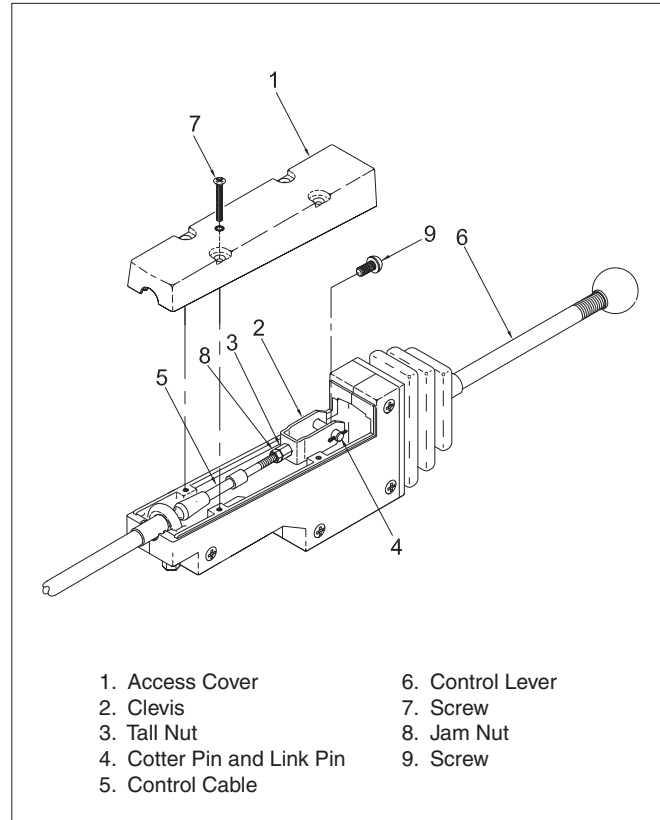

Figure 27 - Control Cable Adjustments
B. See Figure 27. Check that the positions of the **FREESPOOL** lever are the same as the position indicators on the decal. Remove the access cover on the housing. Loosen the nut that keeps the tall nut from turning. Remove the cotter pin and link pin from the clevis. Turn the tall nut and clevis to adjust the length of the control cable. Use the link pin and cotter pin to connect the clevis to the control handle again and check the operation. The linkage and cable must be adjusted so that the **FREESPOOL** shifter mechanism will slide the drum pinion gear to both positions. Both positions have a detent. When the adjustment is complete, tighten the tall nuts and install the cover.